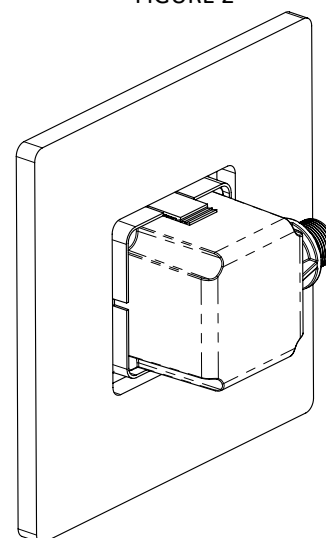

FIGURE 3
5. Attach the Flush Cover plate to the SES160B by press fitting the unit into the mechanically locking tabs. (See Figure 3)